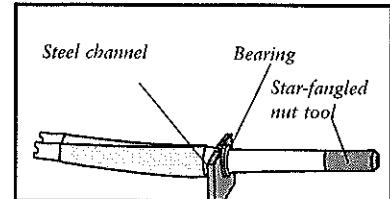

Fig. 38
3. Carefully position the steerer in the steel channel so that the steerer rests on the channel with the bearing on the side nearest the star-fangled tool (Fig. 38). Hold the fork so it cannot fall.